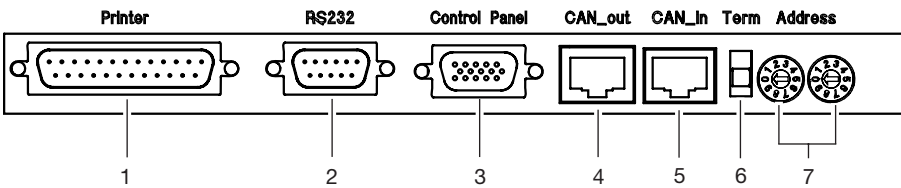

Figure 5: Connection strip of thermo module
- 7 Connection strip of thermo module (see Fig. 5)